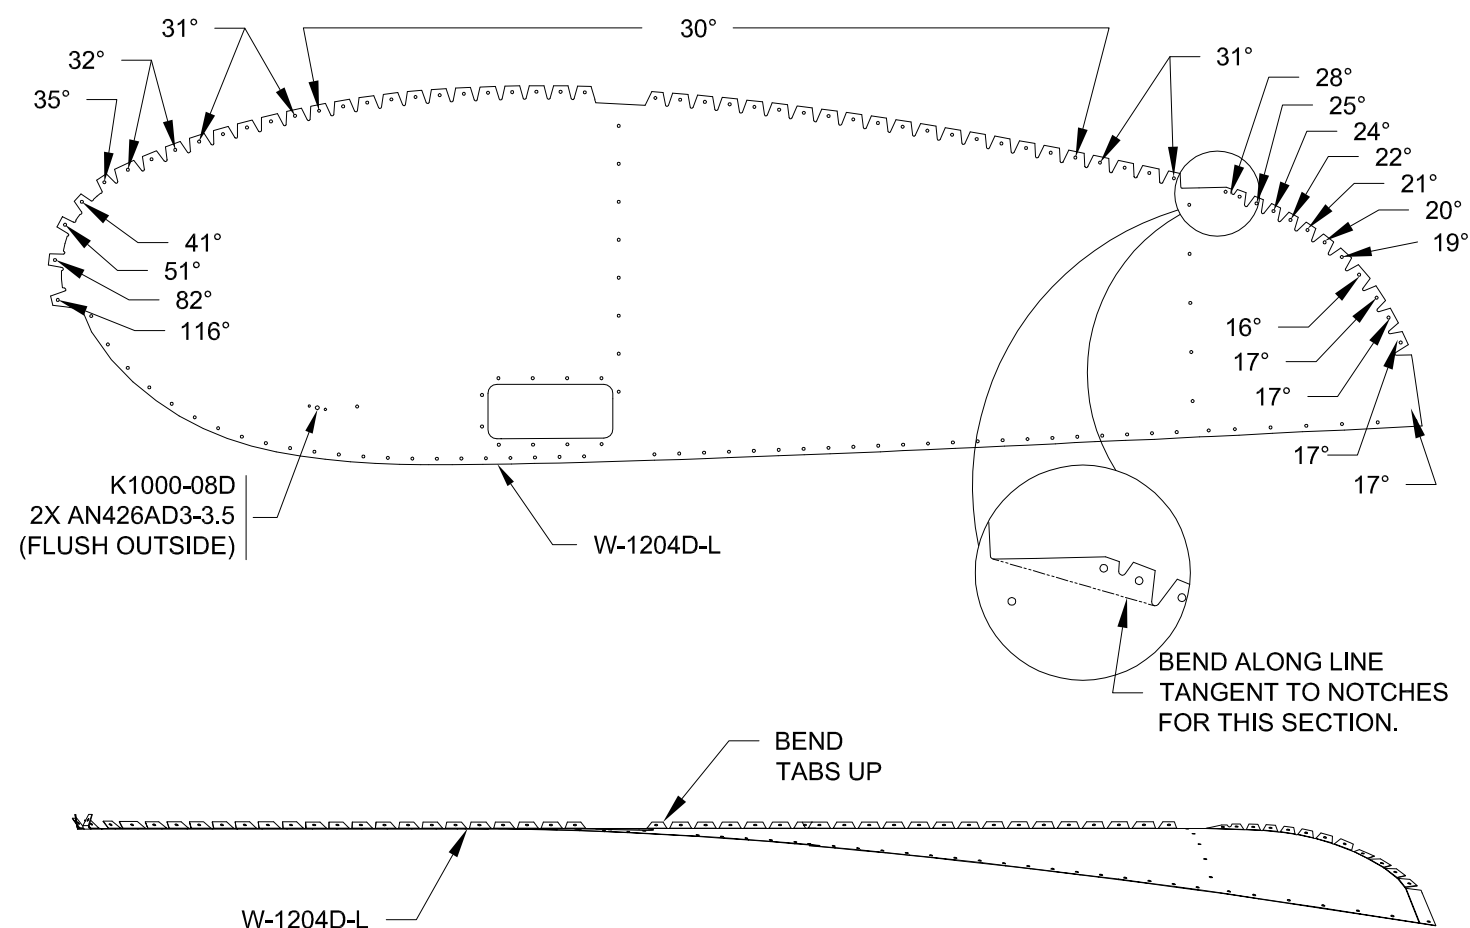

FIGURE 2: MODIFYING THE WING TIP CLOSE-OUT (LEFT SHOWN)
Step 2: Dimple the two rivet holes (flush outside) in the W-1204D-L for the nutplate shown in Figure 2. Install the nutplate on the inside of the W-1204D-L.